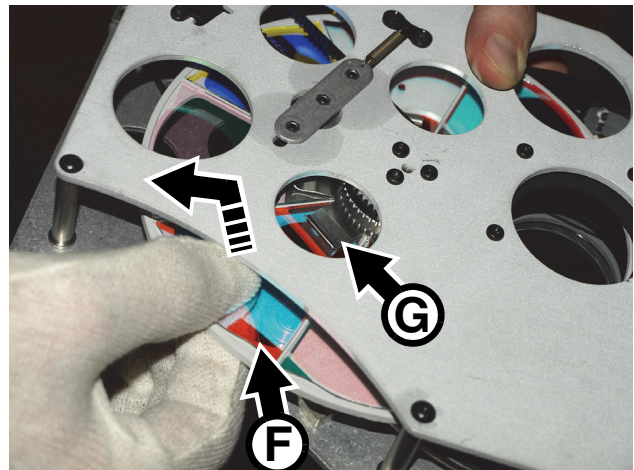

Figure 23: Color filter removal
7. See Figure 23. Rotate the color wheel until the filter that you want to change is accessible. Lift the outer edge of the filter **F** up from the color wheel slightly to release it, then pull it out of its retaining spring **G** and out of the color wheel.